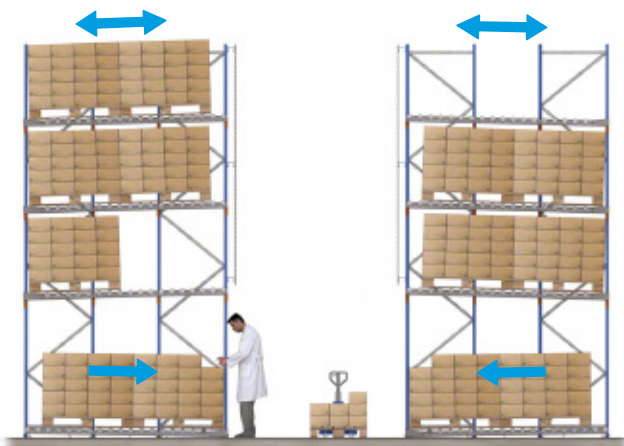

Figure 1
1. A **single level of live picking at the bottom**, where the pallets from the upper levels are introduced (Figure 1).